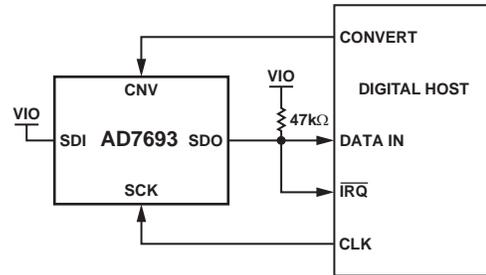
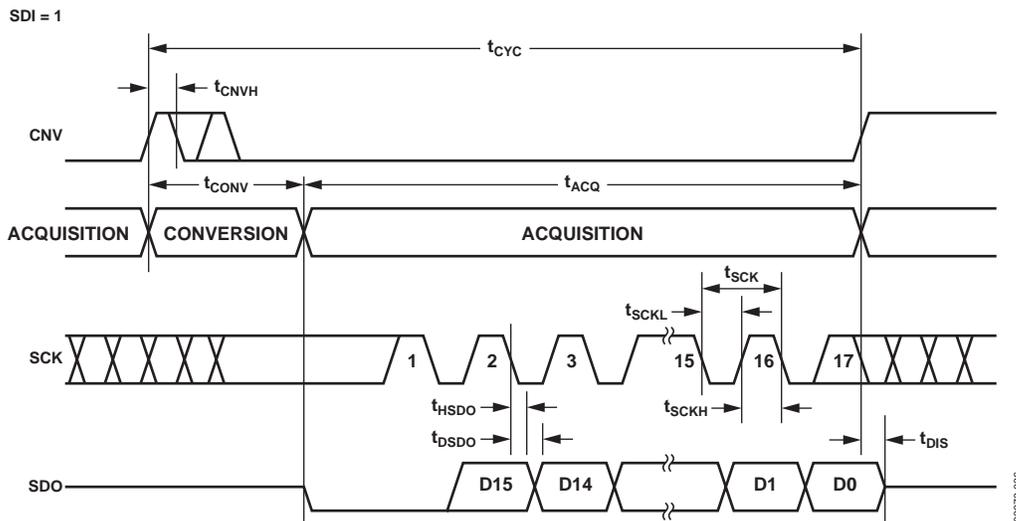
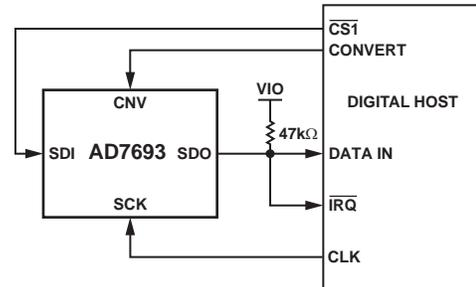
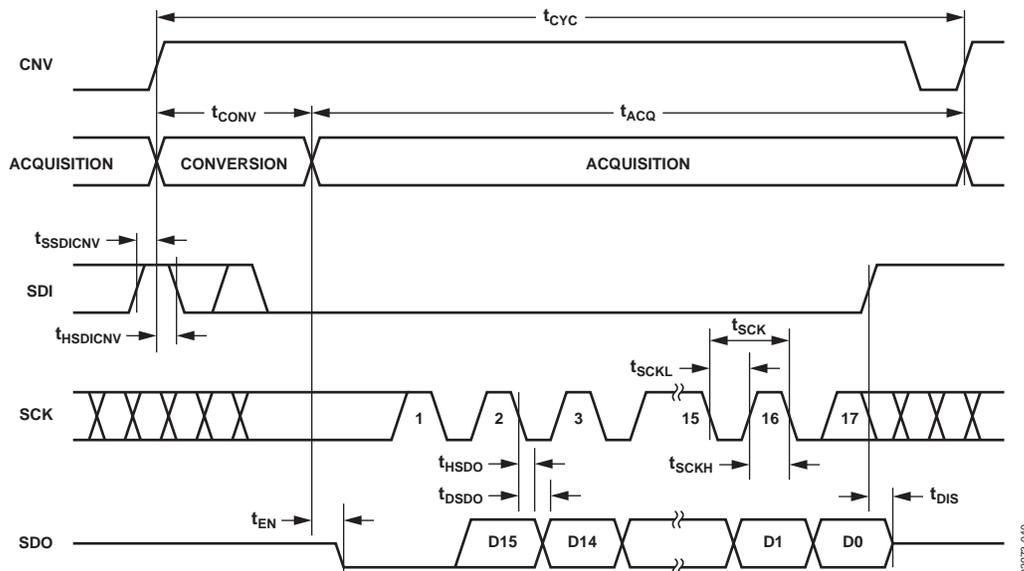

Figure 20.  $\overline{\text{CS}}$  Mode 3-Wire with BUSY Indicator Connection Diagram (SDI High)
Figure 21.  $\overline{\text{CS}}$  Mode 3-Wire with BUSY Indicator Serial Interface Timing (SDI High)
Figure 24. CS Mode 4-Wire with BUSY Indicator Connection Diagram
Figure 25. CS Mode 4-Wire with BUSY Indicator Serial Interface Timing
- In the  $\overline{\text{CS}}$  mode, if CNV or SDI is low when the ADC conversion ends (Figure 21 and Figure 25).
The connection diagram is shown in Figure 20 and the corresponding timing is given in Figure 21.
The connection diagram is shown in Figure 24 and the corresponding timing is given in Figure 25.